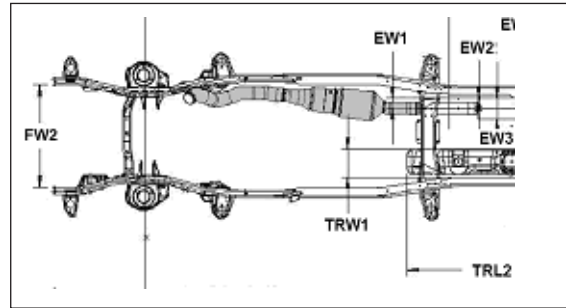

Figure 26
1. To access the PTO aperture on the right (passenger) side of the transmission, the exhaust pipe will need to be removed (**Fig. 26**).